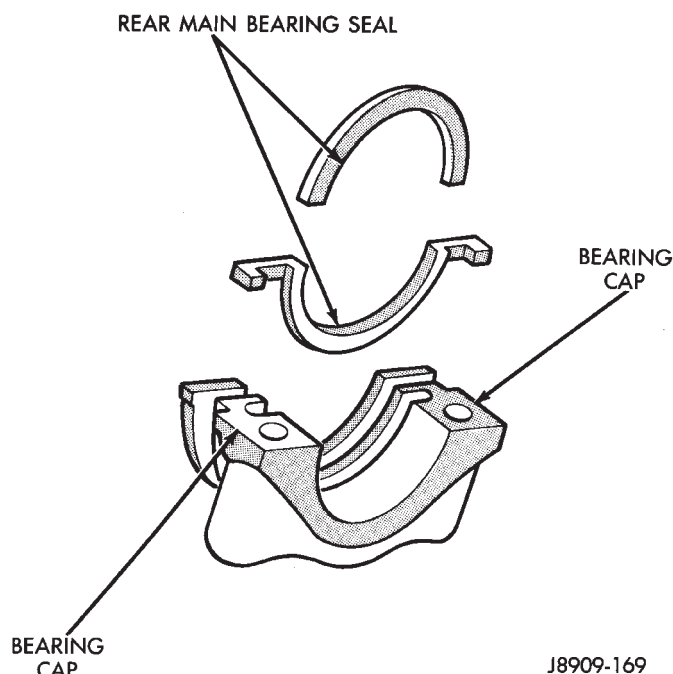

Fig. 58 Rear Main Bearing Oil Seal
(5) Place the lower half of the seal into bearing cap No.7 (Fig. 58).
(6) Coat the outer curved surface of the lower seal with soap and the lip of the seal with engine oil (Fig. 58).